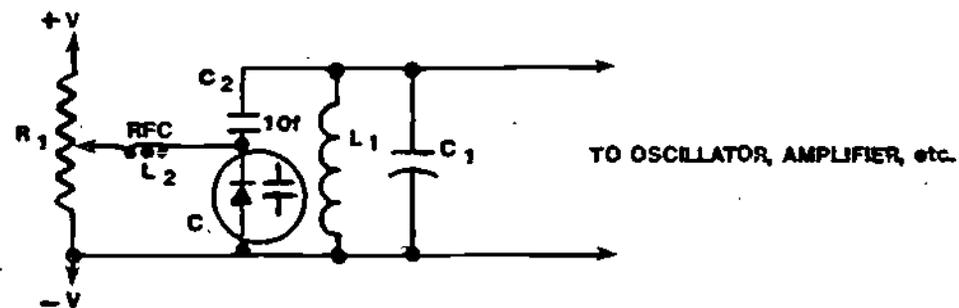

Figure 23
25. Let's place a varactor diode into a circuit to see how it functions. A common application for the varactor is to function as a variable tuning capacitor in the tank circuits of receivers and transmitters. An example is shown in Figure 23.